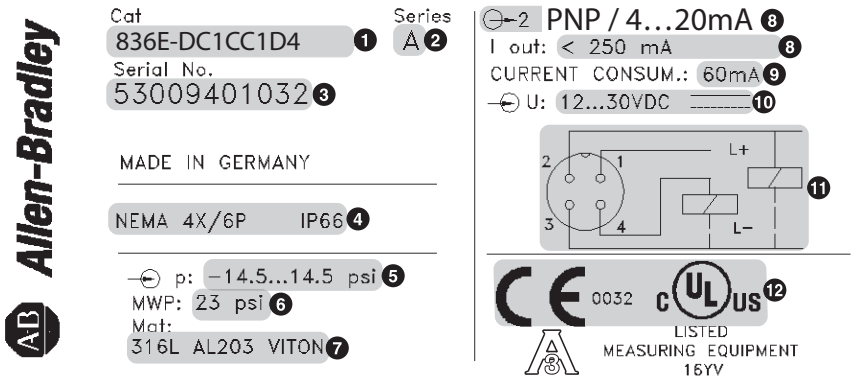

Fig. 1: Explanation of the nameplate - see table below
- Specifications and ratings may differ from those shown in Figure 1, depending on particular model. Refer to product nameplate or catalog for actual ratings and specifications.